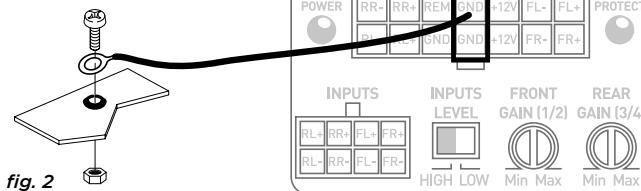

fig. 2
10. Prepare the chassis ground by scraping off any traces of paint on the metal surface in order to ensure proper grounding. The grounding connections should also be as short as possible and ALWAYS be connected to metal welded to the body or the chassis of the vehicle (*fig.2*). The ground point which is generally chosen is the one connecting the negative terminal of the battery to the chassis of the vehicle.
3.3.2 - Get the negative power cable (-). This cable should be as short as possible and ideally shouldn't be any longer than 3ft (1m), to ensure a perfect connection between the amplifier and the chassis of the vehicle. The cable and wire gauge must comply with the table in section 3.1. Find a suitable grounding point, then sand it to remove any traces of paint or other coating in order to optimise the quality of the contact point. Drill a hole in the metal that you have previously sanded, making a hole the same diameter as the screw you are using, making sure that there are no fuel lines, cables or any other sensitive vehicle devices nearby. Solder the ground cable to the wiring harness supplied for your IMPULSE 4.320 amplifier and isolate using heat-shrink tubing (*fig. 2*).